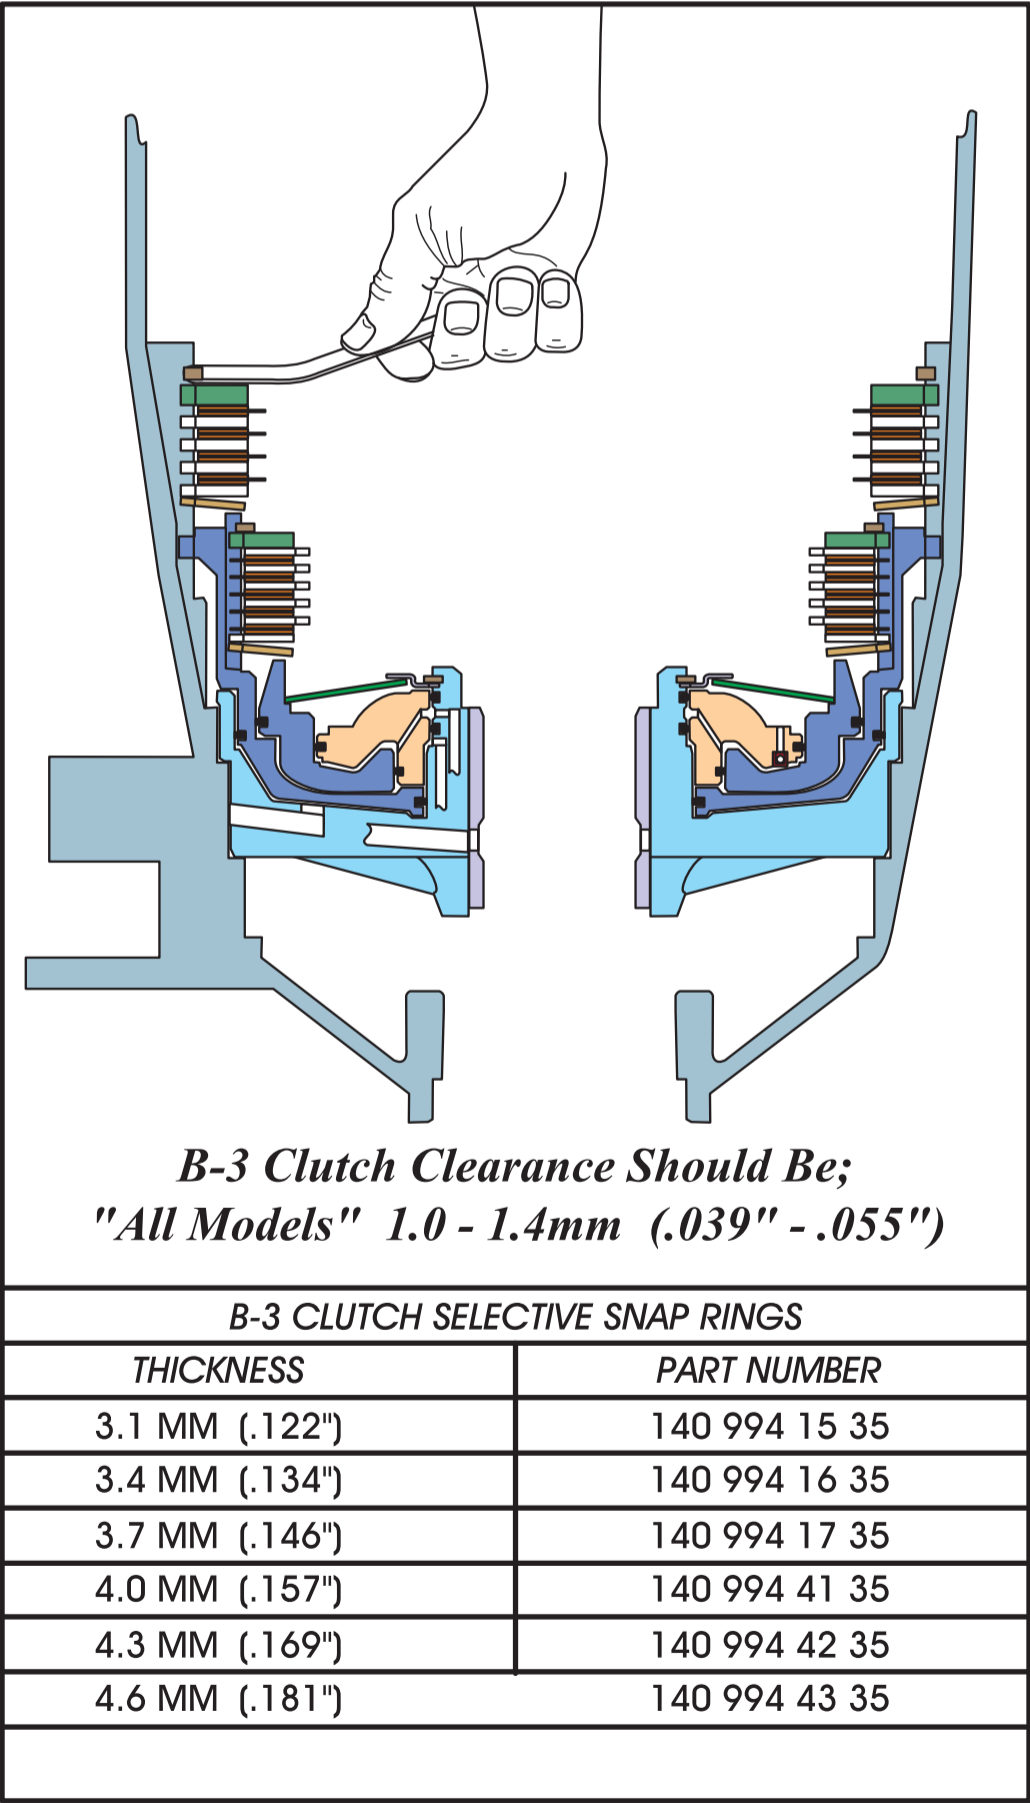

Figure 179
9. Measure B-3 clutch clearance using a feeler gauge between the selective snap ring and the backing plate, as shown in Figure 179.
10. B-3 clutch clearance is the same for all models and should be 1.0 - 1.4mm (.039" - .055"), as shown in Figure 179.
11. Change the selective snap ring as necessary to obtain the proper clutch clearance. There are 6 different snap ring thickness' available and are listed in Figure 179.